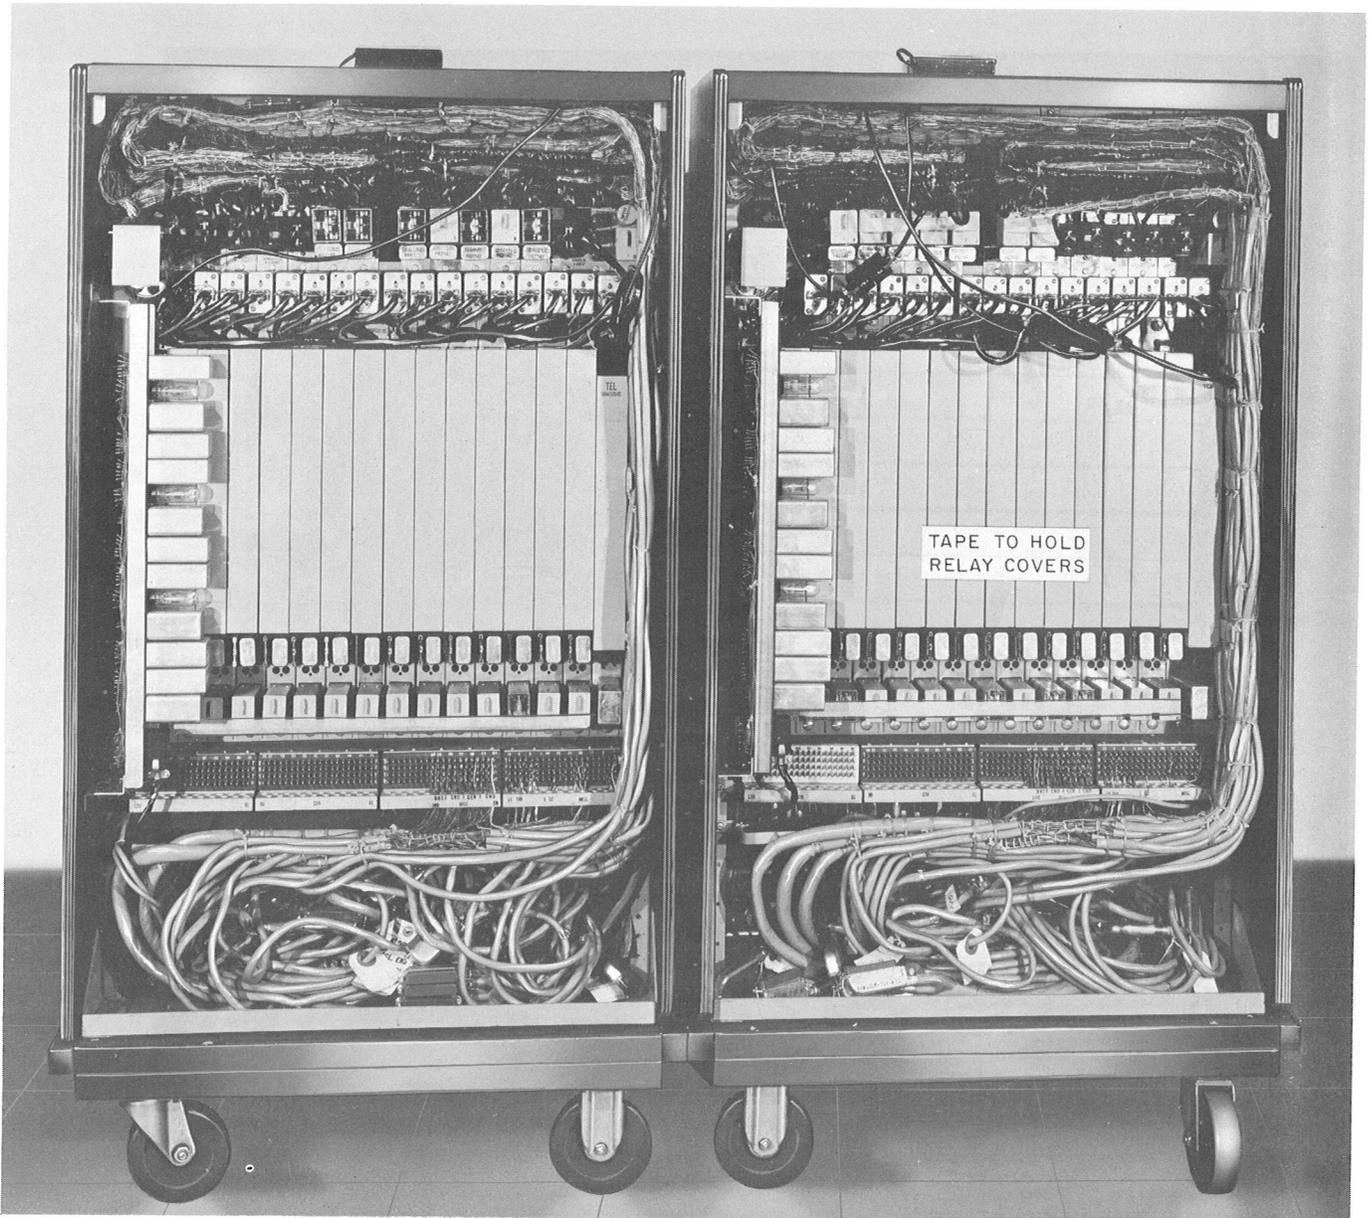

Fig. 6—555 PBX Positions, Rear View
**3.07** When the equipment is no longer needed, it is crated and stored. All relay covers should be secured with tape to prevent them from coming loose during transportation. (See Fig. 6.) Figures 6 through 10 show the storage of the cables after they have been coiled and tied.